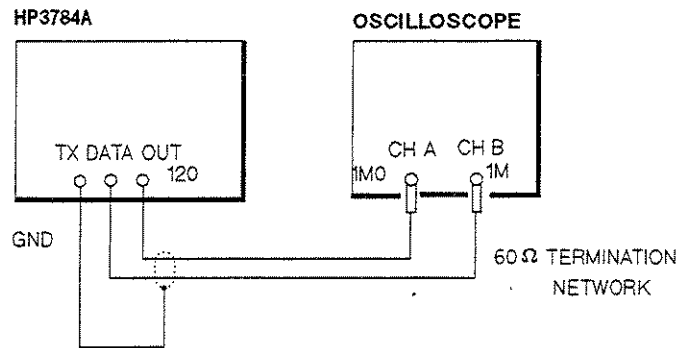

Figure 8-36 64 kbit/s Pulse Shape Test Setup
120 Ω Balanced to Twin BNC Pair	See Figure 8-36
1. Connect the equipment up as shown in Figure 8-36.